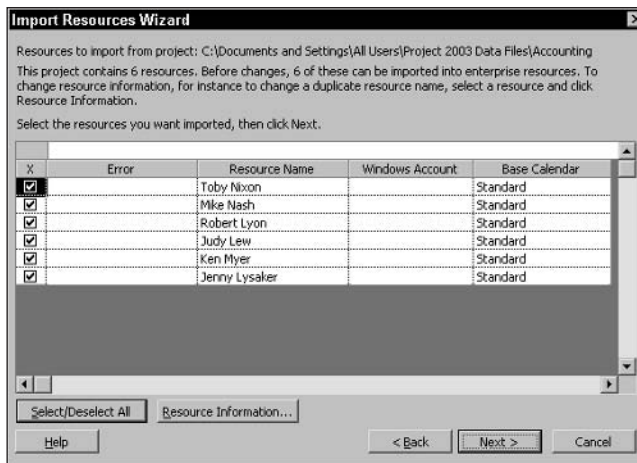

Figure 19-29: Identify resources that you want to store in the Enterprise Resource Pool.
5. Click Next, and identify the resources that you want to upload to the Enterprise Resource Pool by placing a check mark next to their names, as shown in Figure 19-29.